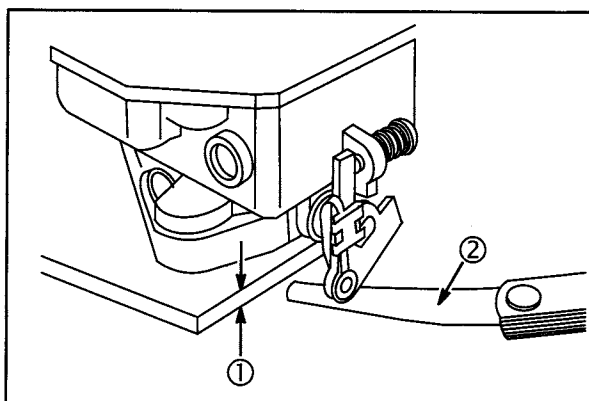

Fig. 96
1. Lay carburetor on 1/8" (3 mm) raised flat surface (1). Use a feeler gauge (2) to check throttle and choke shaft clearance as shown in Fig. 96.